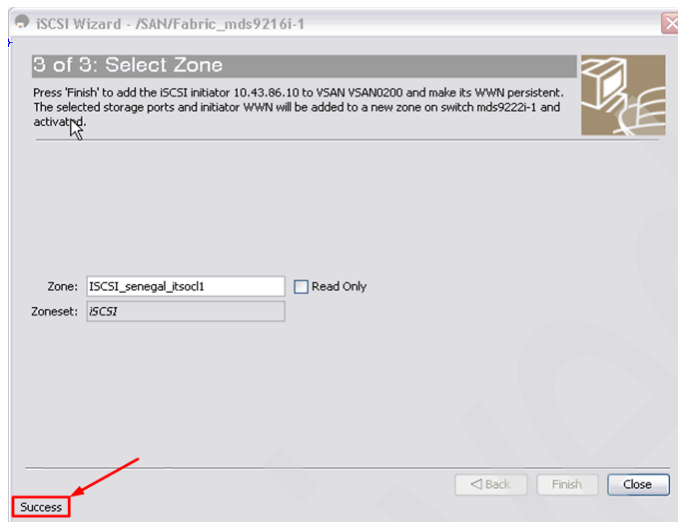

Figure 7-49 Successful completion of iSCSI zone
5. Wait for the zone addition and activation to complete then select the **Close** buttons, as shown in Figure 7-49.